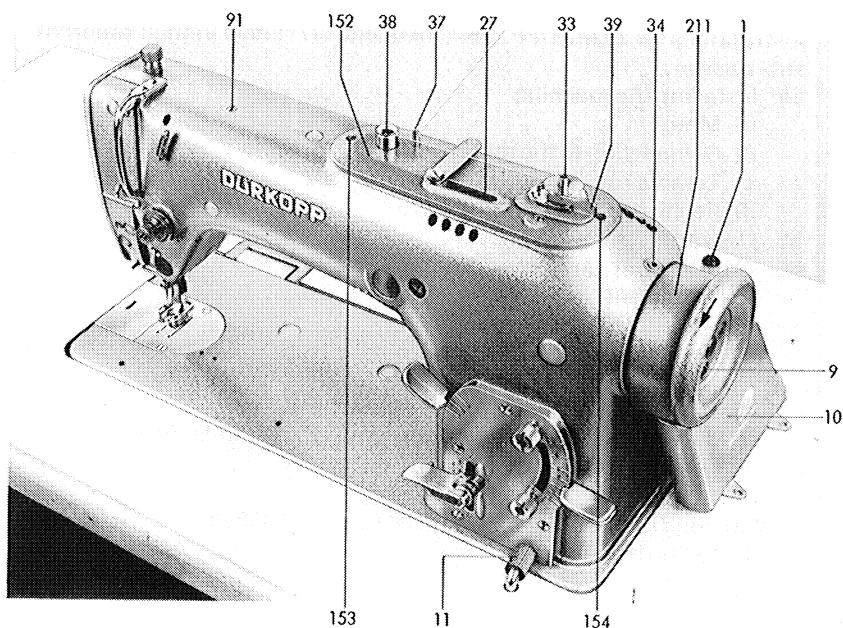

fig. 1
The arrow in fig. 1 shows the proper direction of rotation. If required, repole the motor.
2. Replenishing the oil supply in the oil points 27 (fig. 1) in the arm cover.
Re. 2: The oil cups 27 (fig. 1) in the arm cover should be filled while the machine is upright. They should be filled almost up to the top and the oil should be allowed to soak into the wick underneath the cups before tilting the machine backwards.